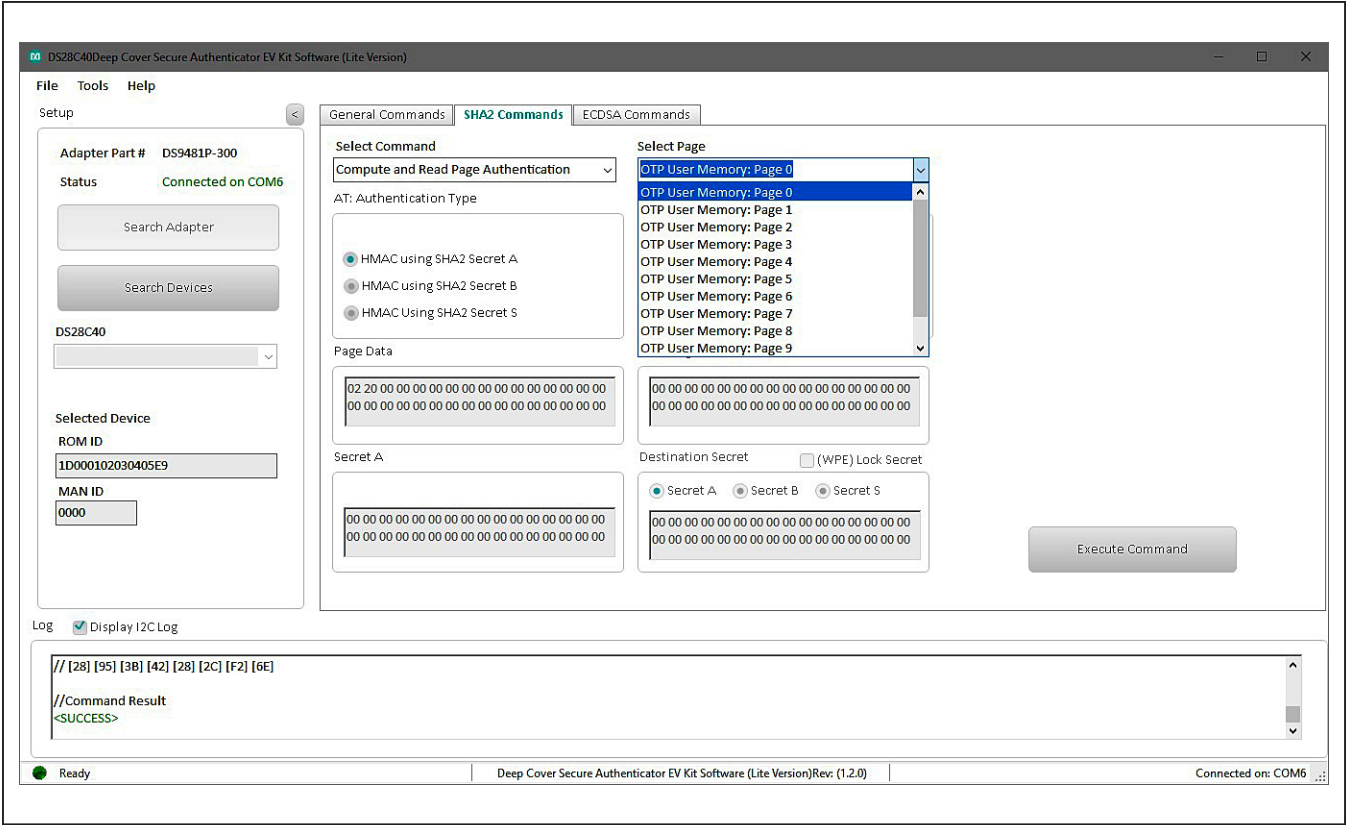

Figure 20. Select Page
6) From the **Select Page** drop-down menu, select a page to execute the command (Figure 20).